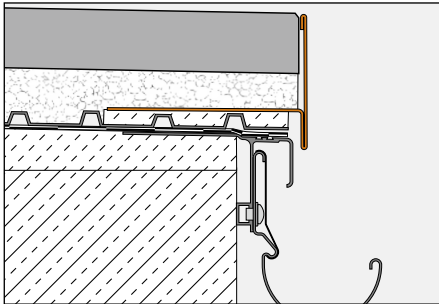

Fig. 1
Installation with self-supporting pavers on mortar contact points or gravel/crushed stone beds (Fig. 1 to 3)
- 3.1 When using Schlüter®-BARA-RT as a gravel retaining edge (Fig. 1), the gravel should reach just below the upper edge of the vertical profile leg, depending on the thickness of the covering. Now the concrete pavers are loosely installed on the levelled gravel bed.